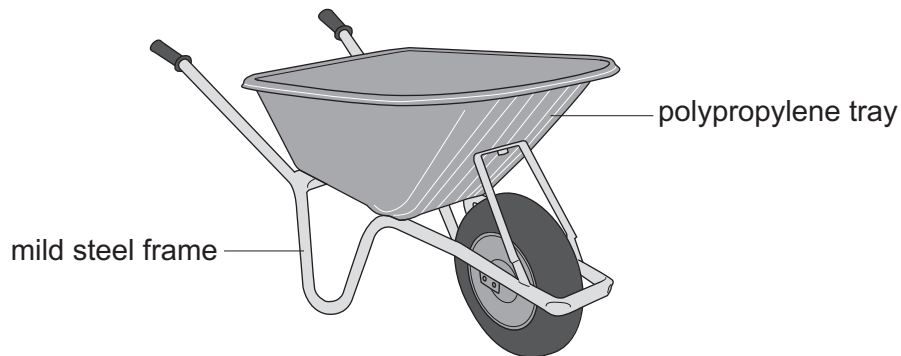

Fig. 1.1
- 1 Fig. 1.1 shows a garden wheelbarrow.